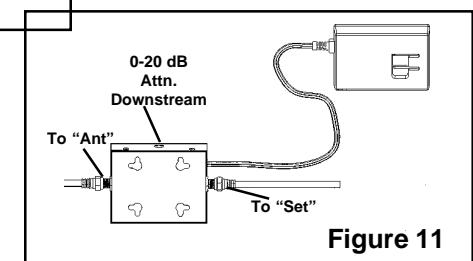

Figure 11
9. Run the download to the PS-0200 power supply connector labeled "To Ant". (See Figure 11.)
10. Run a cable from the PS-0200 power supply connector labeled "To Set" to the set-top. (See Figure 11.)